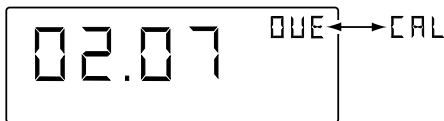

Figure B-8 CAL
- 1) After successful zero / calibration of all ranges, press Switch Two () repeatedly if required, until DUE date is displayed, alternating with CAL as shown in Figure B-8.